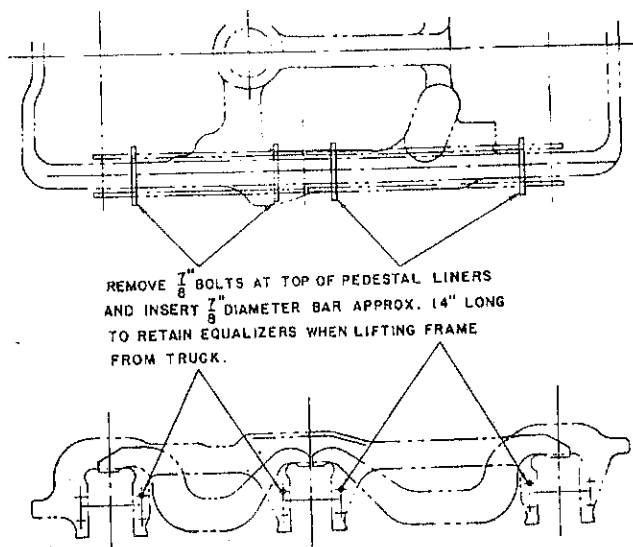

Fig. 31 - DISASSEMBLY-THREE MOTOR TRUCK
7. Remove truck pedestal liner top bolts at location marked (see Fig. 31) and pass $\frac{7}{8}$ " dia. bars, 15" long through the holes from which the bolts were removed. These bars will engage and lift the equalizers along with the truck frame when it is being removed from the axle assemblies.